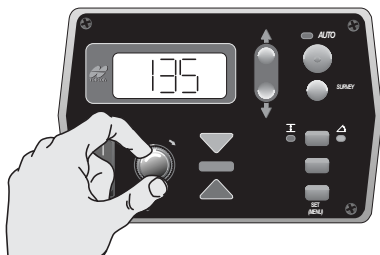

Figure 24. Setting the Raise Valve Offset Value
2. Turn the Grade Adjustment Knob counter clockwise, decreasing the valve offset value until the hydraulic cylinder no longer moves. Then slowly rotate the Grade Adjustment Knob clockwise until the hydraulic cylinder just begins to move up (Figure 24).